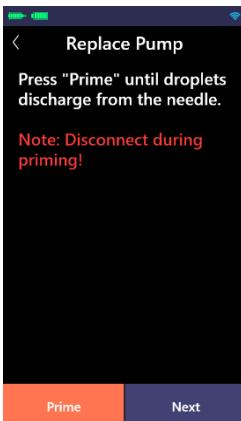

Figure A.9.5
(5) Prime. Press or click "Prime" until droplets discharge from the needle and then click "Next" (as shown in Figure A.9.5).